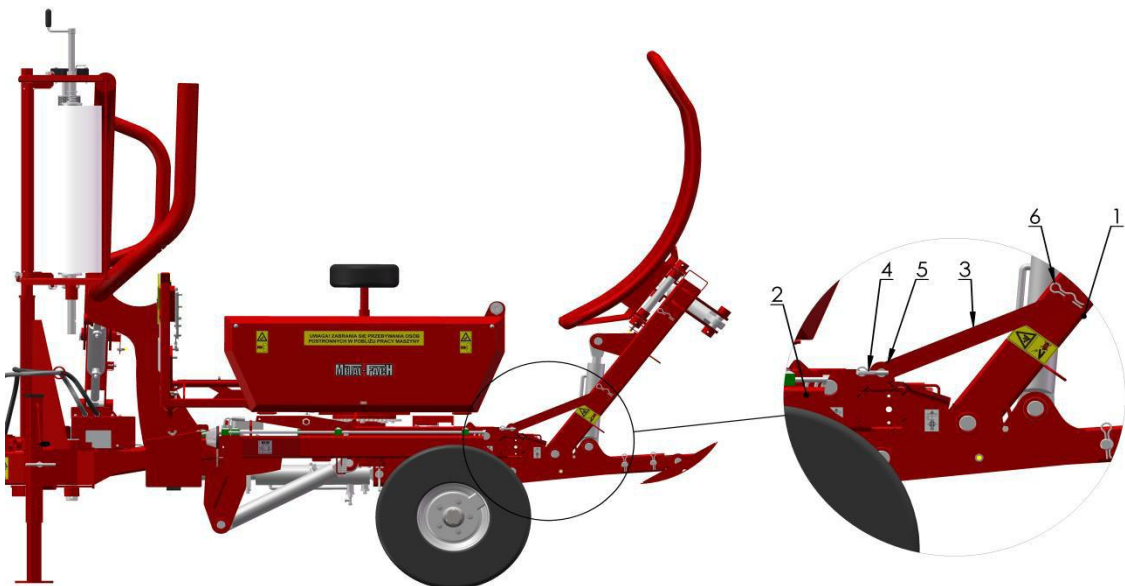

Fig. 26. Bale on end kit's frame protective device. 1-Kit frame, 2-Main frame, 3-Protective bar, 4-Bar pin, 5-Bar installation eye, 6-Cotter pin.
- Lock the bale lowering arm in the top position using protective device (Fig. 26, chapter 4.2.7),